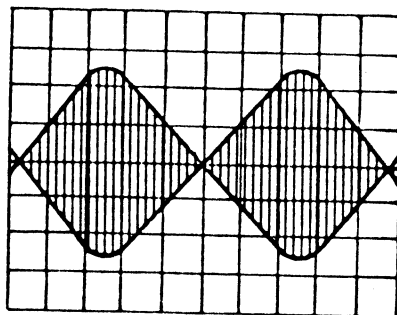

Figure 4-6. Cat's Eye Pattern for Radial Alignment
- f. Observe the read signal (see Figure 4-6). Adjust the vertical scale so the peak amplitude of the larger lobe is five major divisions (cm) and note the amplitude of the smaller lobe.